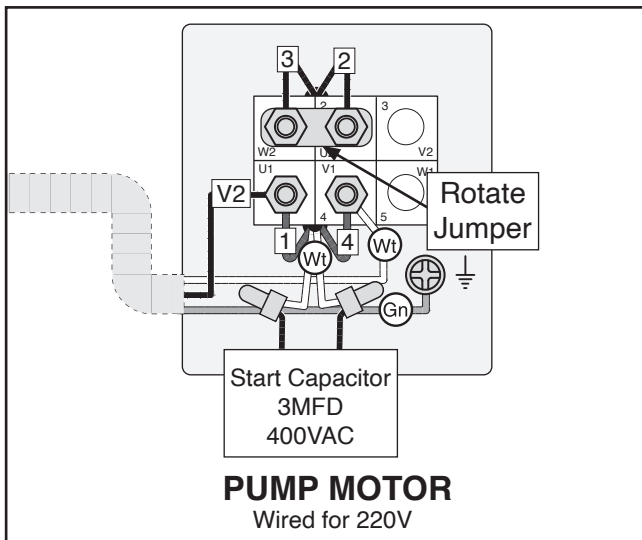

Figure 13. Pump motor wired for 220V operation.
- Rotate remaining jumper across **W2** and **U2** terminals and secure, as shown in **Figure 13**.